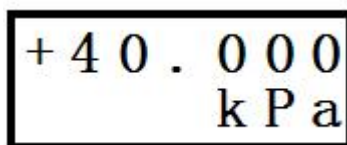

Fig.39
② Press the "Confirm" key once, and the display will show the upper limit of the analog range as 40 kPa, as shown in Figure 39;